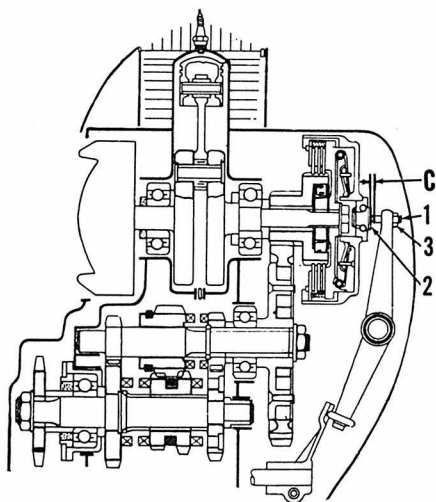

**Fig. BS1-5—Exploded view of starter-generator unit used on deluxe models.**
**IGNITION AND ELECTRICAL.** A flywheel type magneto is used on standard models and a combination starter and generator is used on deluxe models. Ignition point gap should be 0.012-0.016 inch. Ignition should occur (points just open) at 23 degrees BTDC. Three marks are provided on the fan and one mark is located on the left crankcase flange as shown in Fig. BS1-3. The center mark (23 degrees) and the mark on crankcase can be used for ignition timing. On magneto models, stator (9—Fig. BS1-4) can be rotated in the elongated mounting holes to change ignition timing. On deluxe models, ignition point base plate (12—Fig. BS1-5) can be moved in the elongated holes to change ignition timing. Commutator insulation should be undercut 0.020 in. and commutator should be turned if grooved more than 0.020 in. Condenser capacity is 0.24 Mfds. for all models.